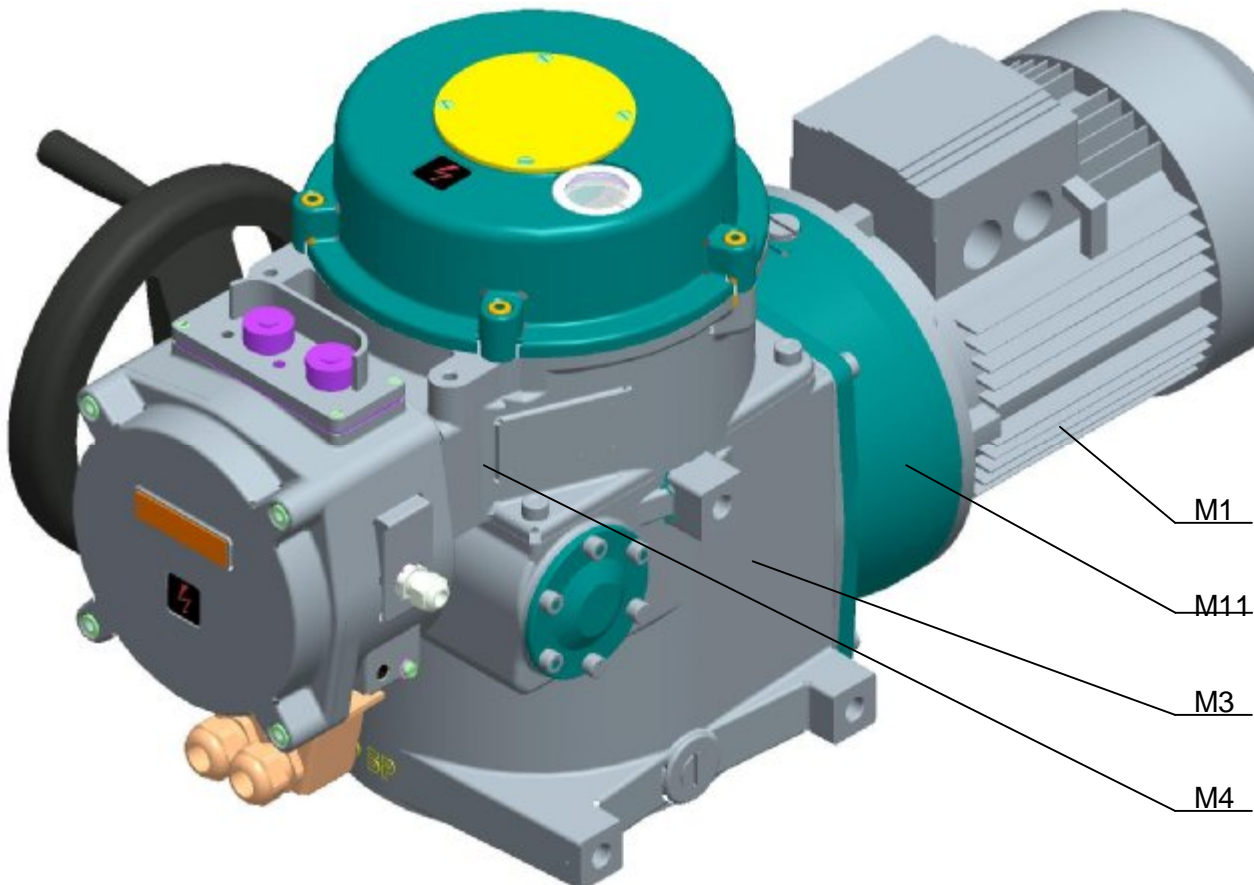

Fig.1
EA **MO 5** and **MOR 5** are of compact construction with several connected modules. They are composed of two functionally different main parts consisting of following modules (**Fig.1**):
worm is proportioned to torque load. The fork fits into perimeter slot and thus is allowed rotary motion of hand wheel, therefore manual control in every operating status. On the rear part of the box (22), (across to hand wheel) are three bosses with threaded openings, which allow fastening of electric actuator on the wall, or auxiliary construction (**Fig.1**).
Module M4 control box (fig.1) is situated on the upper part of the electric-actuator, and creates a stand-alone functional unit. On the top of the control box a cover. The bottom side of the control box closes the box of the power drive and creates at the same time a bearing construction holding the gears of a control box (46) (**fig.3**), which contains:
- position unit (11)
- signaling unit with gear unit (12)
- torque unit (9)
- transmitter unit (33) (according to EA specification)
- heating resistor (16) with thermal switch (15)
- controller (only for EA **MOR 5**) (14)